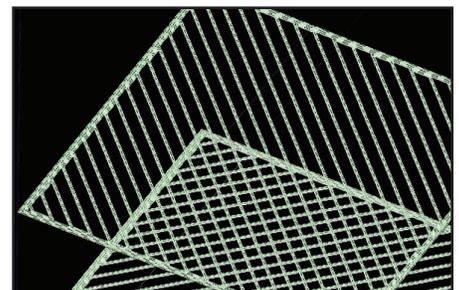

Figure 43: Sparse fill alternates raster direction for each layer.
- Uni-directional rasters on each layer (Figure 43)